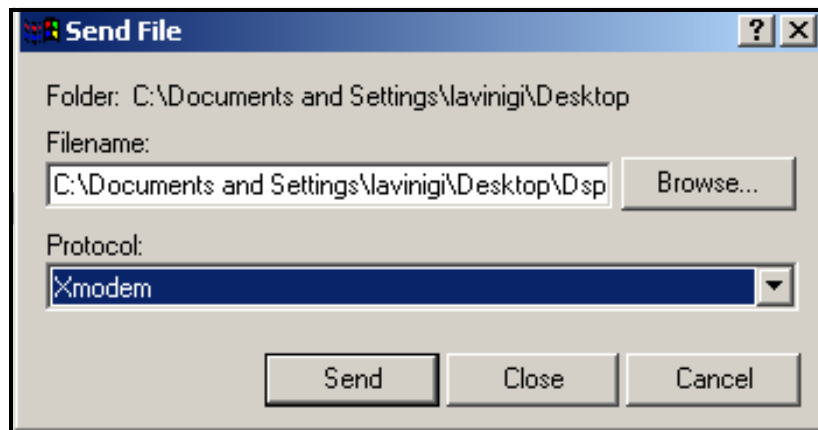

Figure 2-12: “Send File” Window
- The “Send File” window appears (see Figure 2-12 below). Select the replacement software (designated by a .cod extension) from the folder where it has been stored.